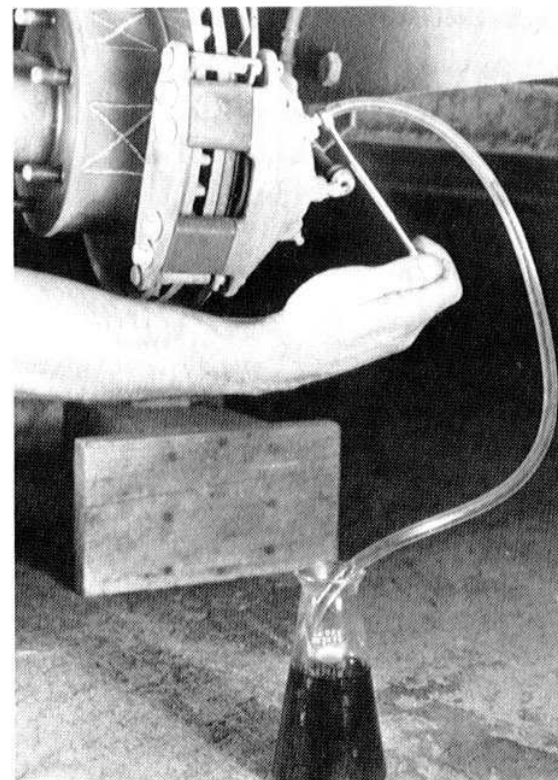

Fig. 46
6. Attach bleeder hose to top bleed screw of disc brake caliper and place hose end in container to catch fluid (See Fig. 46).
8. Repeat steps (6) and (7) on the top bleed screw at each trailer wheel (See Fig. 46). Always start with wheel closest to master cylinder on each side of trailer.
11. Repeat steps (6), (7) and (8) above.
7. Attach bleeder hose to top bleed screw of disc brake caliper and place hose end in container to catch fluid (See Fig. 46). Always start with wheel closest to master cylinder on each side of trailer.
11. Repeat steps (7), (8), (9) and (10) until all air is expelled and clear fluid flows at all wheels. Tighten bleeders. Stop engine.